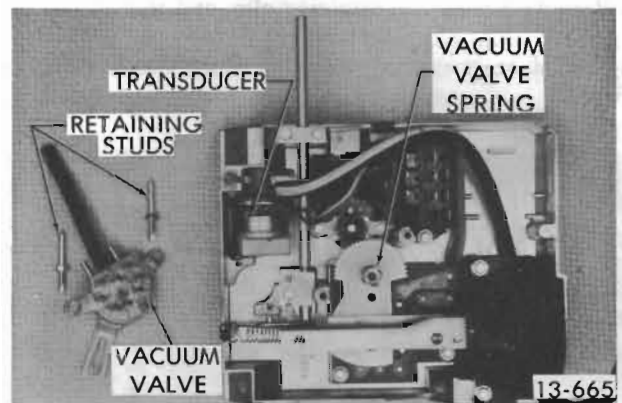

Figure 13-125 Vacuum Valve - Removed
4. To replace, reverse removal procedure. Make certain vacuum valve spring is in place. Refer to Figure 13-125.